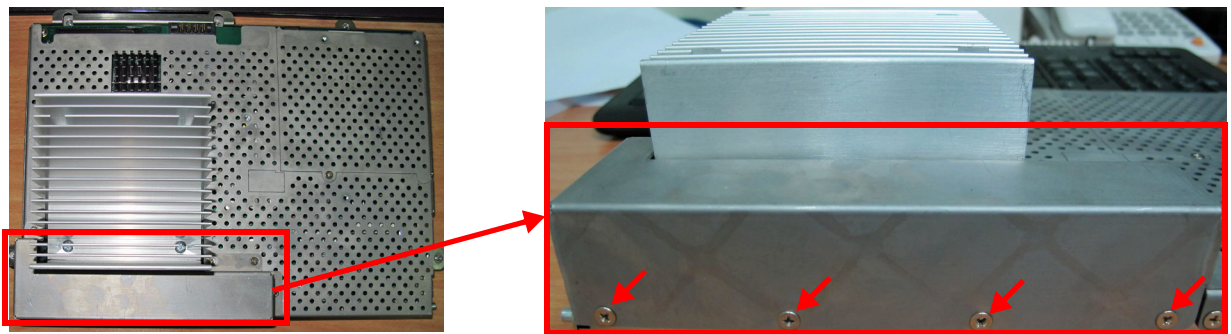

Figure 8-154 Module Memory DDR Replacement
The Module Memory DDR is located on the BEP (the obverse side that is not visible when opening the cage door to view the BEP). The front view of the BEP is shown in Figure 8-151 on page 8-118. The BEP has to be removed to access the Module Memory DDR, which is shown in Figure 8-154 below.
3.) Remove the Module Memory DDR cover by unscrewing 8 screws as indicated in Figure 8-154, above and Figure 8-155.